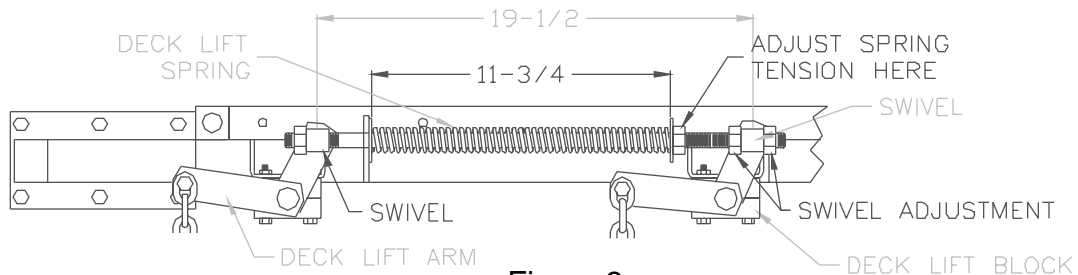

Figure 3
4. Adjust the four upper chain bolts to the center of the slot in the deck lift arms. NOTE: make sure deck lift blocks are tightly bolted to the frame (See Fig 3).
6. Check the distance between the washers on the deck lift springs. Distance should be  $11\text{-}3/4$ " (See Fig 3).